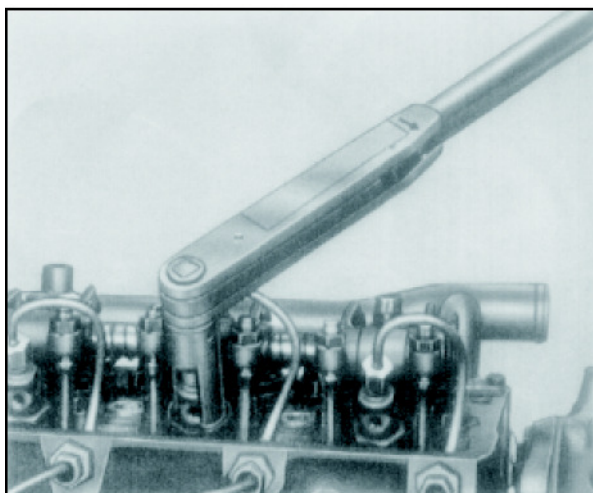

Fig. 20
5. Screw-in pressure screw for nozzle holder with socket, 000 589 0209 and tighten to specified torque. Fig. 20.